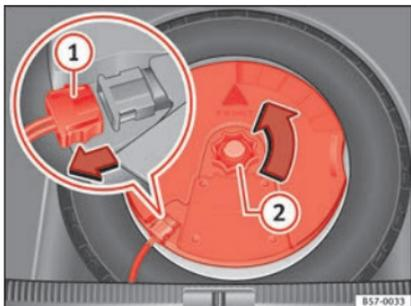

Fig. 256 In the luggage compartment: remove the *subwoofer*.
- Disconnect the *subwoofer's* speaker cable »» Fig. 256 ①.
- Turn the securing wheel anti-clockwise ②.